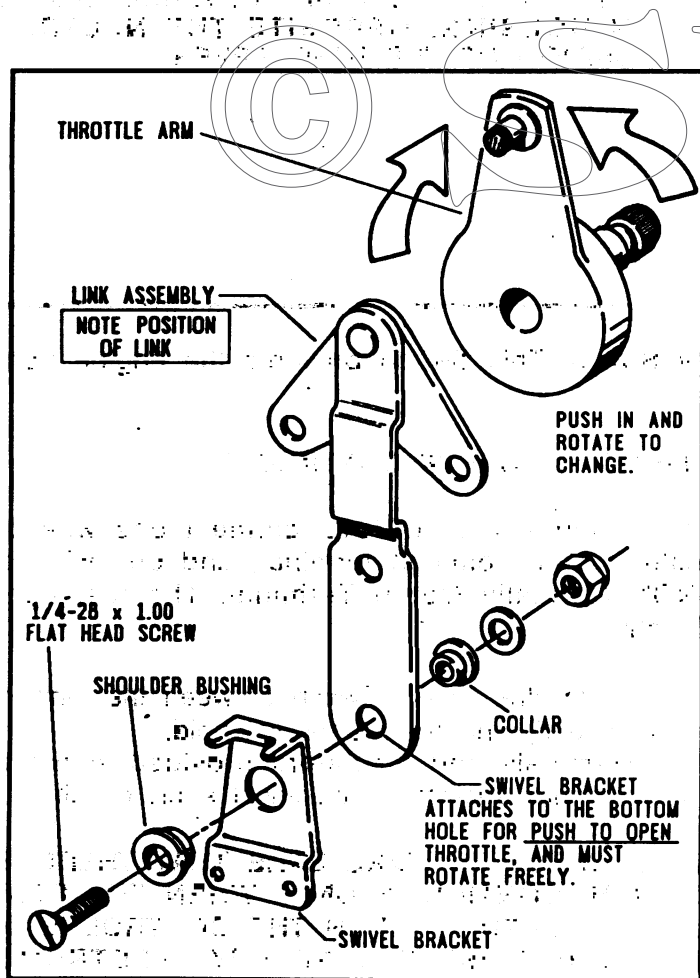

FIGURE 4 PUSH-TO-OPEN CONFIGURATION
Refer to the **ENGINE APPLICATION GUIDE, SECTION 4**, for the proper Cable action to suit your engine. The Throttle lever may be factory-set for "push" to open throttle. Refer to Figure 4. If you find it necessary to change to "pull" to open throttle, proceed as follows:
4. Remove the two (2) hex Head Screws at the Link Assembly, and remove the Link, make sure the Shift Arm does not change notch positions.
7. Attach the Swivel Bracket in the proper hole. See Figures 4 and 5 for proper location.